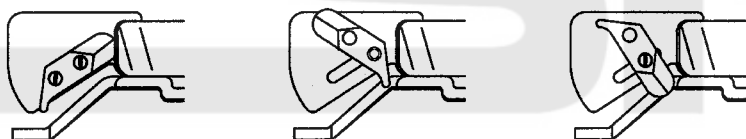

Fig. 23
- Change their position, direction, and thickness according to sorts of material. (Fig. 23)